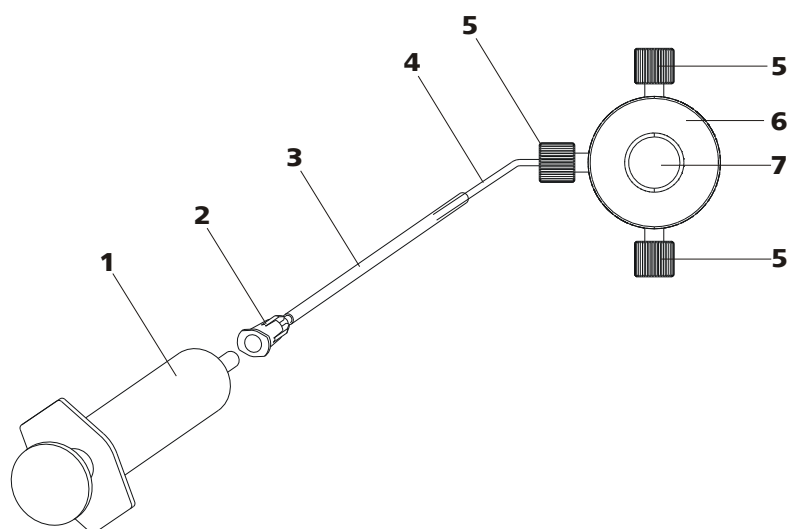

Figure 18 Deaerate the high pressure pump
Deaerate the high pressure pump as follows (see figure 18, page 34):
- Insert syringe (18-1) in the Luer connector (18-2) of the purging needle (see figure 18, page 34).